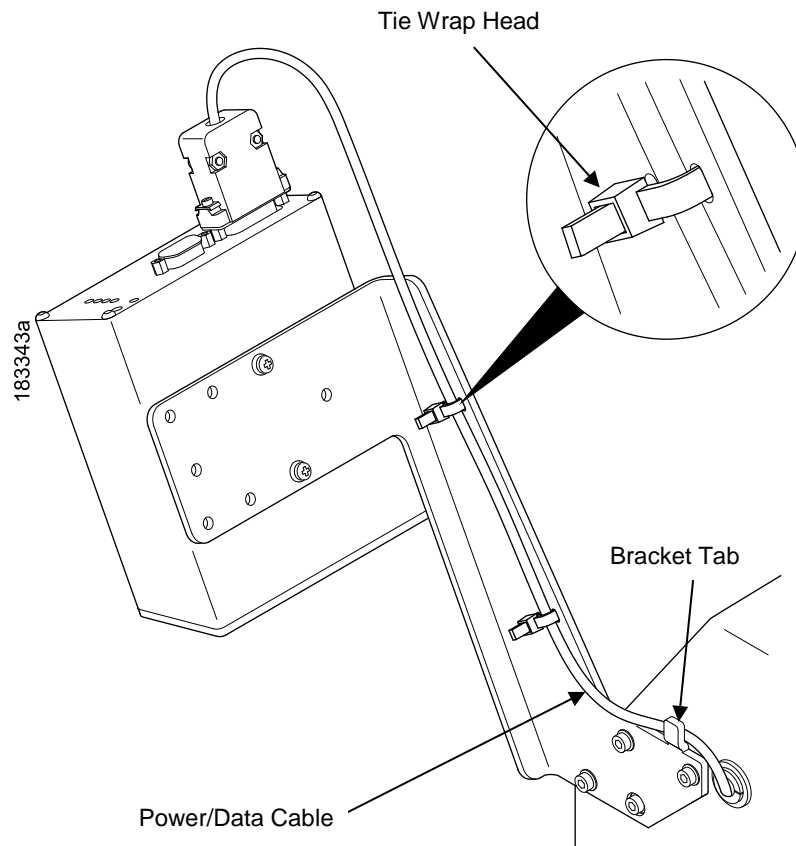

Figure 16. Securing the Power/Data Cable
4. Route the tie wrap back through the second upper slot and underneath the power/data cable and then through the tie wrap head, as shown in Detail A of Figure 16.
7. Route the power/data cable behind the bracket tab as shown in Figure 16.